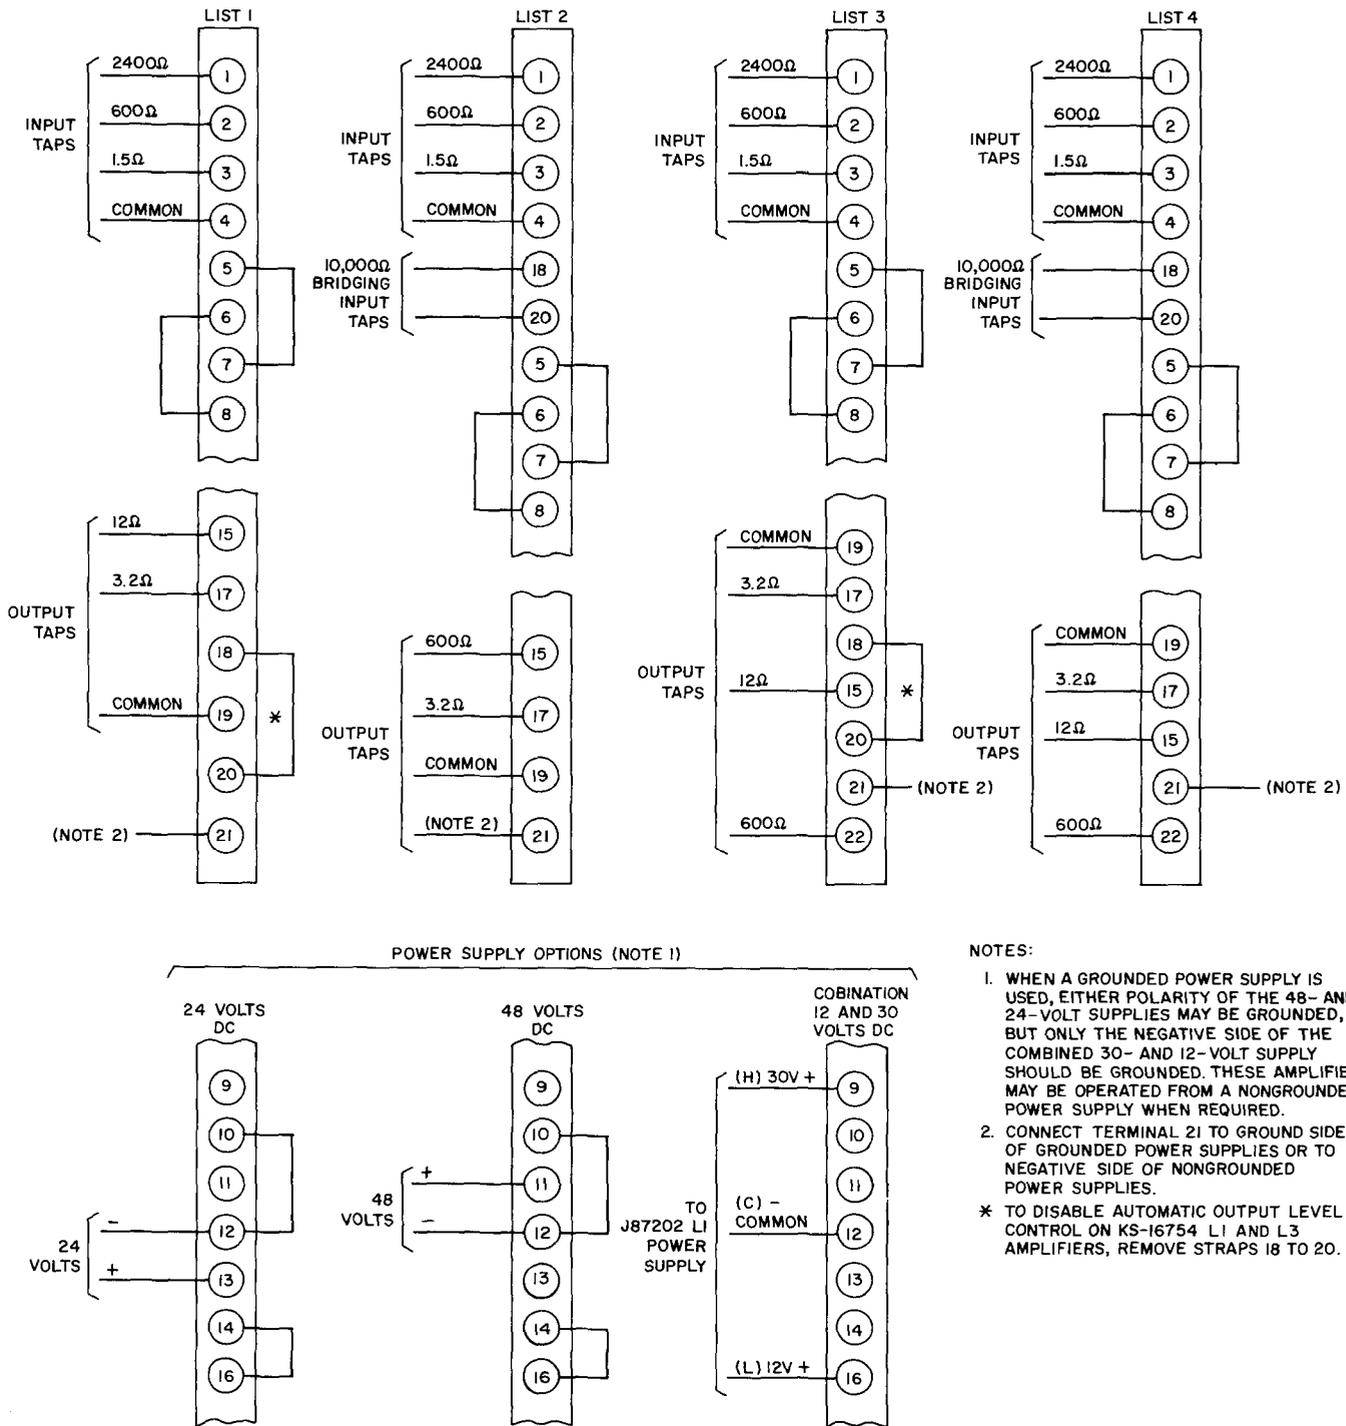

Fig. 4—Connection Data for KS-16754 Amplifier
5.03 Connect input and output lines and battery to terminal strip with station wire or cable. Refer to connection data in Fig. 4.
5.04 Strap the terminal strip for 24, 48, or a combination of 12 and 30 volts dc from the J87202 L1 rectifier (Fig. 4).
6.04 Connect power supply as shown in Fig. 4.
- (1) If output of amplifier fails, check power supply and input signal.
- (2) Check setting of gain control. Full counterclockwise position will cut off input signal. Completely readjust if necessary.
- (3) If power supply, input signal, and gain control are satisfactory, replace the KS-16728, List 1 plug-in amplifier. This is done by removing the cover and pulling circuit board out of pin-jack socket.
- (4) If unit fails after replacement of KS-16728, List 1 amplifier, replace complete KS-16754 amplifier unit.
8.03 When replacing existing L1 and L2 amplifiers with L3 and L4 amplifiers for maintenance reasons, be sure to restrap the terminations in accordance with Fig. 4.